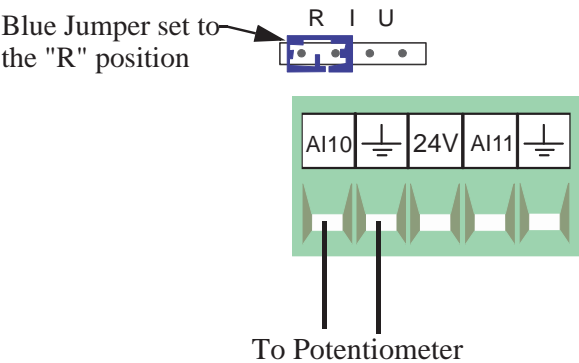

Figure 26. Potentiometer Wiring
If natural ventilation is being used, the Potentiometer(s) that are attached to either the main curtain machine(s) (Internal Potentiometer), or the main curtain cables (External Potentiometer) need to be wired to the Chore-Tronics® 3 I/O Board. The Potentiometers need to be connected using the same Twisted Pair Wire that is used for the Temperature Sensors and follows the same wiring rules. Each Potentiometer needs to be wired to one of the Analog Input (AI) Terminals on the IO board. Make sure that whichever AI Input the Potentiometer is connected to that the Blue Jumper above the Input is set to "R" (**See Figure 26**). To connect the sensor wire to the Potentiometer itself, please see Chore-Time instruction manual MV1251 for internal Potentiometer wiring, or MV1566 for external Potentiometer wiring.